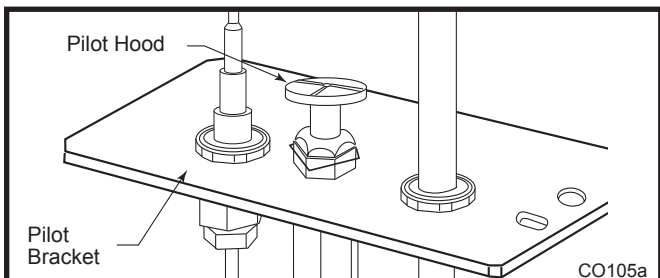

Fig. 70 Remove pilot hood.
- Remove pilot hood by lifting up. (Fig. 70) Do not remove snap ring to remove pilot hood. **NOTE:** It is not necessary to remove the pilot tube for conversion.